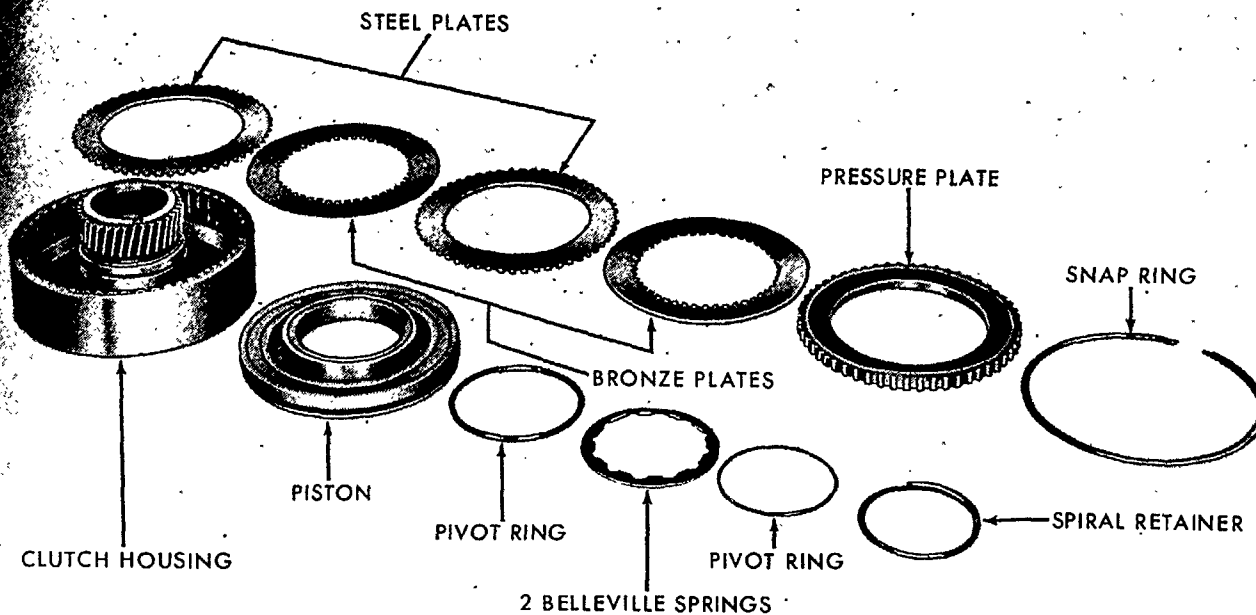

Figure 114
5. Remove the small wire pivot ring, the spring washer, and the large wire pivot ring, Figure 114.
2. Install the large wire pivot ring, the spring washer, and the small wire pivot ring, Figure 114.